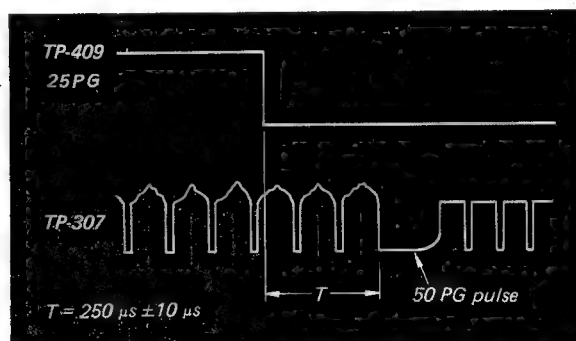

Fig. 7-13. Position of 50 PG pulse
3. Adjust R377 so that the phase between the leading edge of 50 PG and leading edge of the 25 PG pulse is 250 μ sec ± 10 μ sec. See Fig. 7-13.